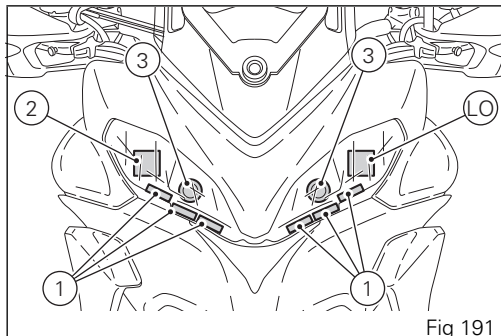

Fig 191
(Fig 191) shows the locations of the parking light LED unit (1), low beam LED unit (2) and high beam lights (3).